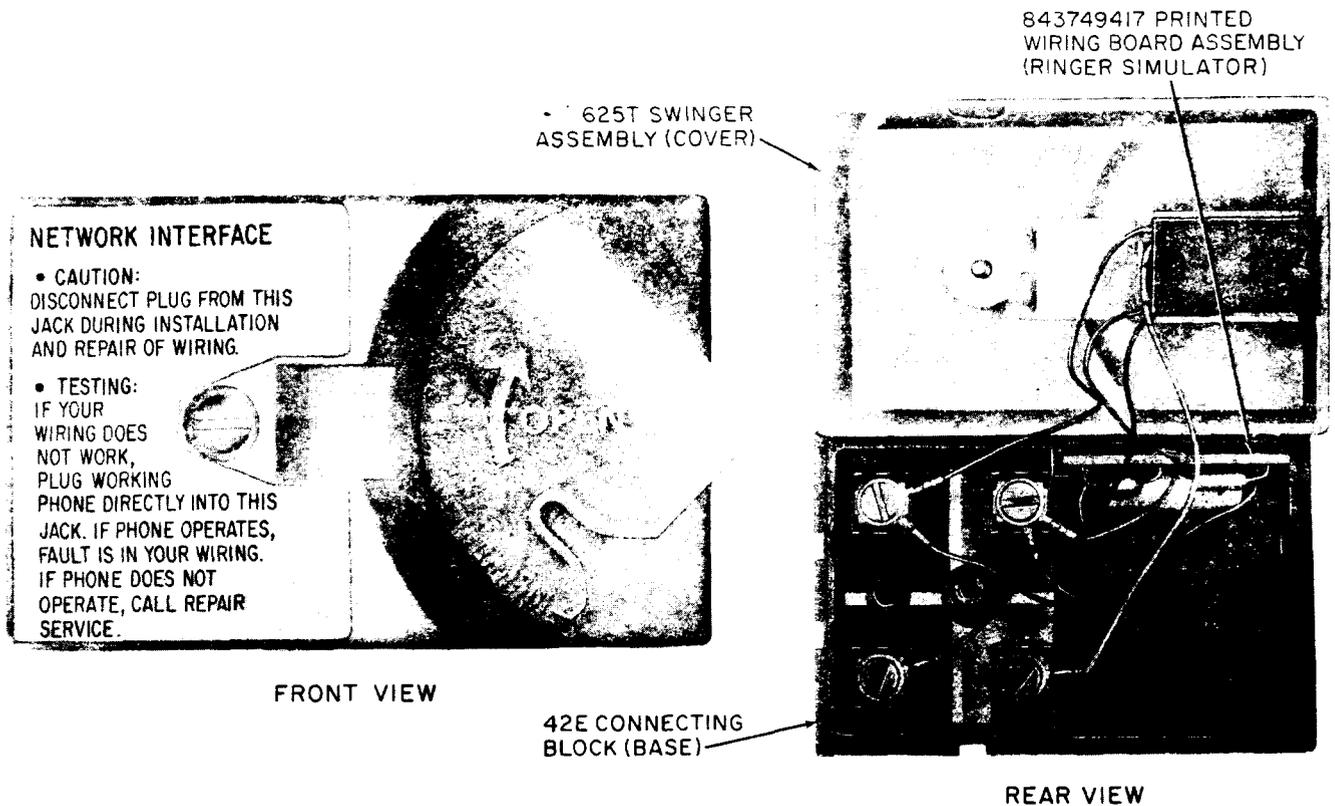

Fig. 14—625TD Connecting Block
M. 625TD2 Connecting Block (Fig. 14)
3.13 625TD Connecting Block: Mount the 42E connecting block (base) on a wall (preferred) or baseboard as near the protector or point of premises penetration as possible. Terminate station wire and termination unit (ringer simulator) and dress the 625T swinger assembly (cover) jack leads as shown in Fig. 14. Intended for use with 742A connecting block or equivalent. The network interface label that comes in the package should be mounted on the protector or a conspicuous location specified locally.